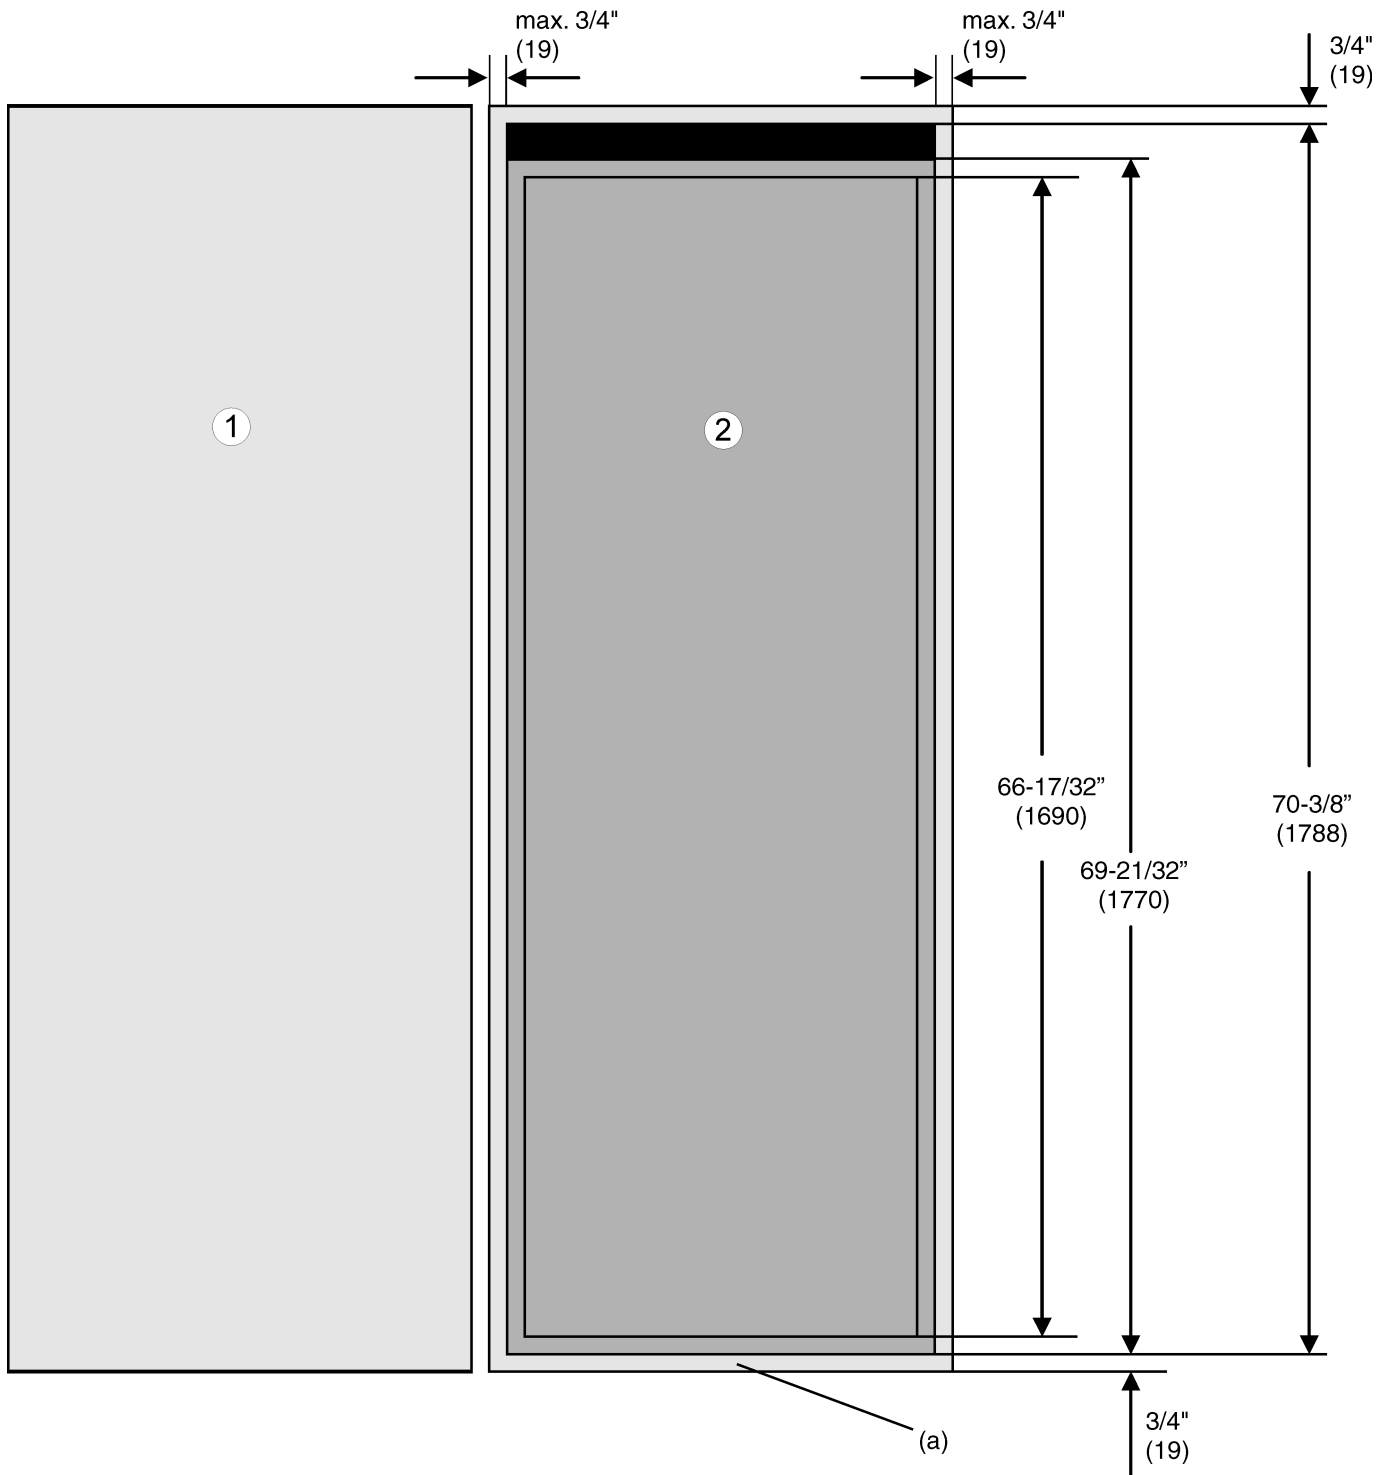

Fig. 7
- Total cabinet height (i. e., 69-21/32 in. (1769.5 mm)) plus the thickness of the cover plate and floor plate Fig. 7 (a) (usually 3/4 in. (19 mm))/ 69-21/32 in. + 3/4 in. + 3/4 in. = 71-5/32 in. (1769.5 mm + 19 mm + 19 mm = 1807.5 mm)